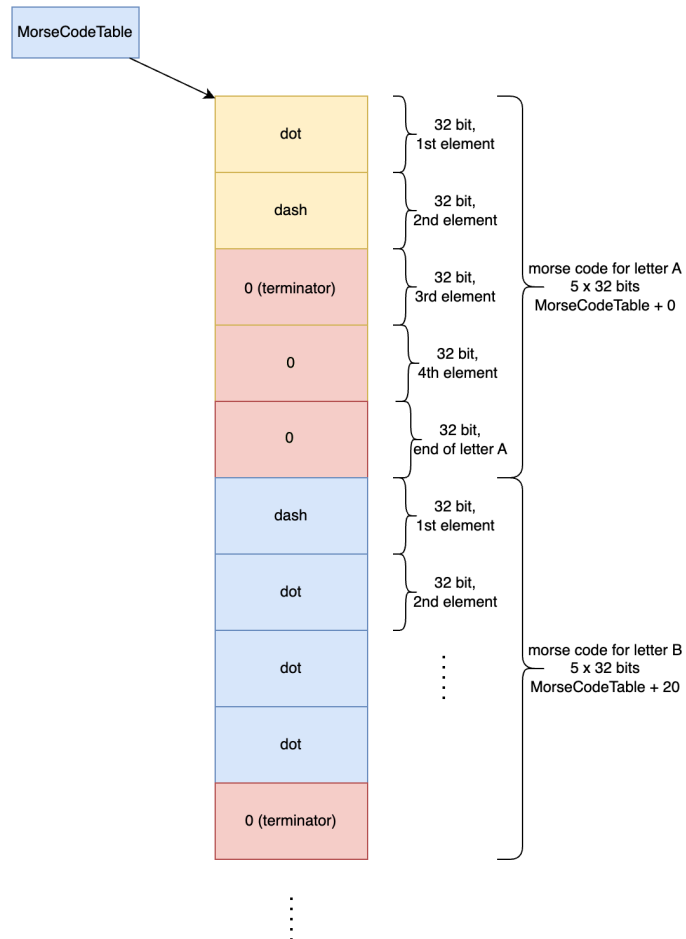

Figure 2.9. A list of 26 elements and each element is five 32-bit numbers.
Figure 2.9 shows one possible data structure you could use to convert an ASCII character into Morse code. Each element of the list is five 32-bit numbers. Each number is a dot (100ms) or a dash (300ms). Therefore each element in the list is 20 bytes. There are 26 elements, one for each letter. Assume **Letter** is an ASCII character from 'A' to 'Z'. The index into the list is **Letter-0x41**, because 'A' is 0x41. Because the Morse Codes vary from 1 to 4 symbols, the dots and dashes have a null (0) termination. For example, the code for 'A' is dot-dash.
The following code creates the data structure described in Figure 2.9. This code is part of your Lab 2H starter project. Edit this data structure as needed and use it to convert letters to Morse code. Feel free to organize the structure however you wish. It should be placed in ROM, because it is a constant. You can define values in milliseconds for **dot** and **dash** using **.equ**.